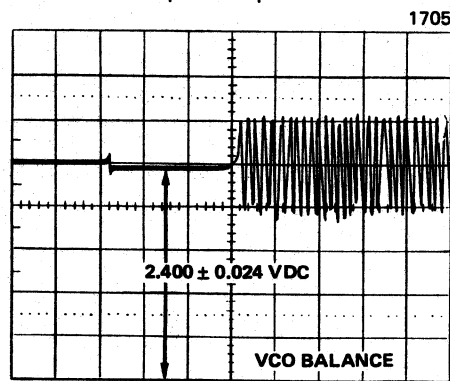

Figure 3-26. VCO Balance
- e. Adjust potentiometer R11 until voltage during phase lock portion of gap is 2.400 ± 0.024 Volts DC as shown in Figure 3-26.